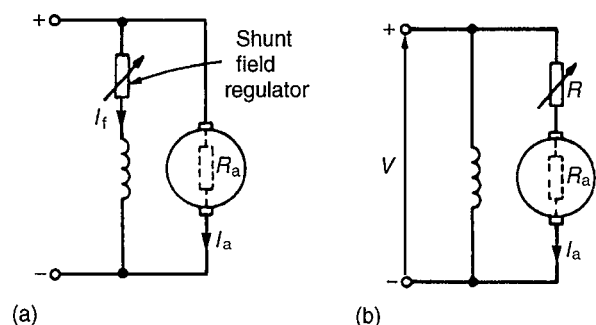

Figure 22.29
(see equation (9)). The speed is varied either by varying the value of flux, Φ , or by varying the value of R_a . The former is achieved by using a variable resistor in series with the field winding, as shown in Fig. 22.29(a) and such a resistor is called the **shunt field regulator**.
are obtained by increasing the resistance in the armature circuit, as shown in Fig. 22.29(b), where
- (a) With reference to Fig. 22.29(b), back e.m.f. at 120 A, $E_1 = V - I_a R_a = 500 - (120)(0.2)$